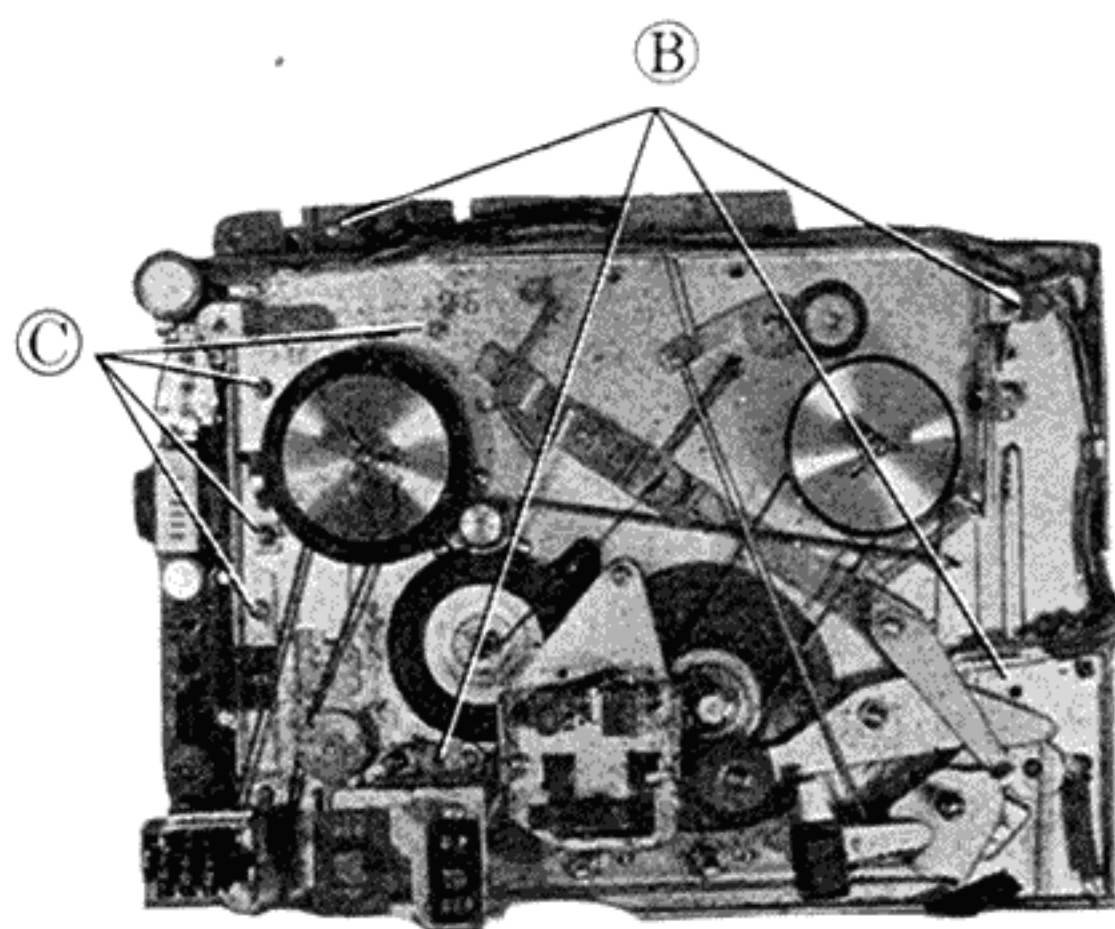

Fig. 2
2. Removal Procedure of Cabinet Body (Fig. 2)
3. Removal Procudure of Amplifier (Fig. 2)